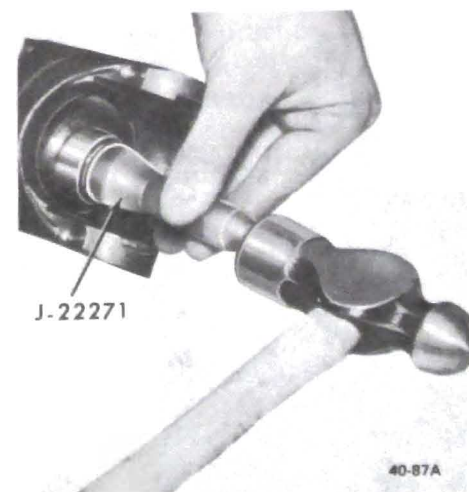

Figure 40-76 Installing Ball Stud Seal
2. Pack spring cavity with grease supplied in repair package which meets GM-6040-M or equivalent. This grease is available in 14 oz. containers through the Parts Department Group 8.800 part number 1050679. Install spring, ball seat washer, ball stud seats and .040" spacer. Apply a thin coat of non-hardening sealer such as number 2 Permatex or equivalent to the outer diameter of the seal to insure adequate sealing and install seal with lip toward the seat using Tool J-22271. See Figure 40-76.